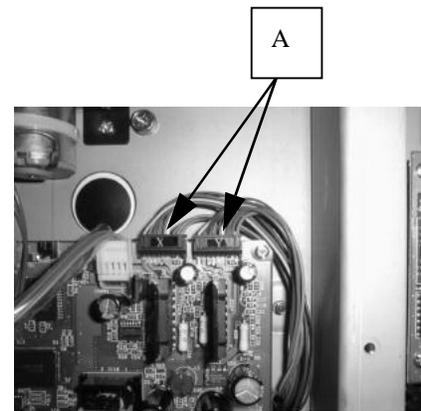

FIGURE 8-2
2. Remove the connectors(A) from A board. Fig 8-2.